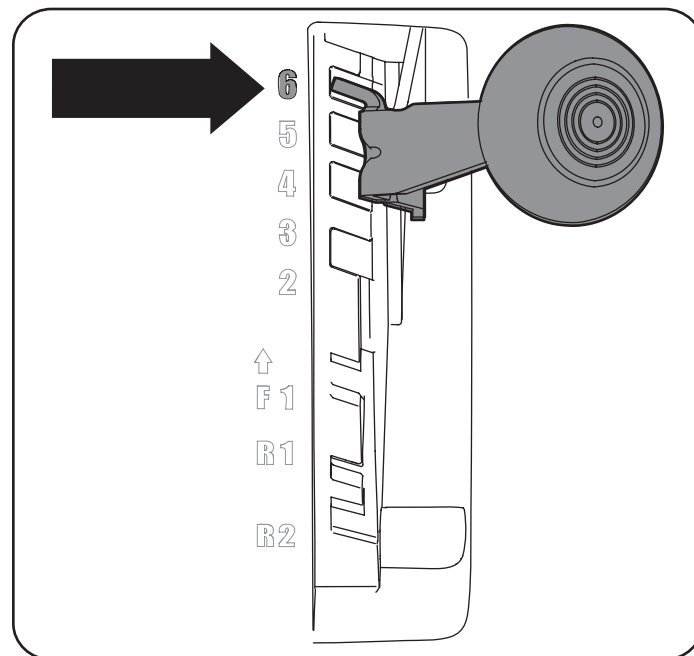

Figure 2
2. Place shift lever in Forward-6 position. See Figure 2.